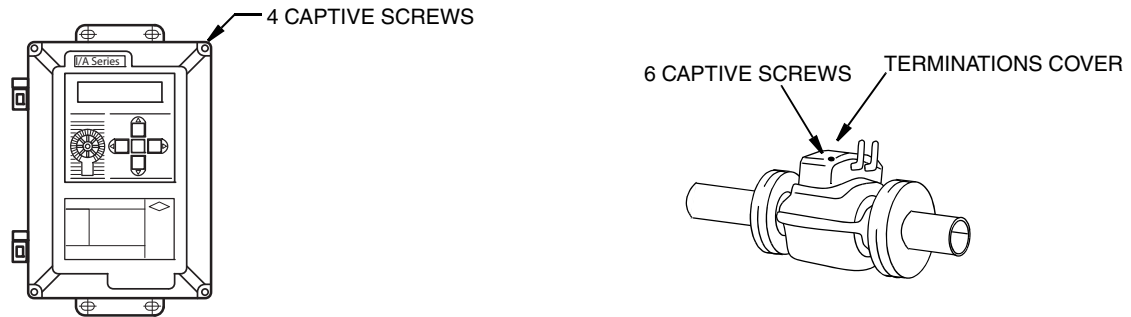

Figure 8. Access to Terminals
For access to terminals inside the transmitter, unscrew the four captive screws on the corners of the cover of the enclosure and swing open the door. For access to the terminals inside the flowtube, remove the six captive screws on the flowtube terminations cover. See Figure 8.
1. Remove the cover from the flowtube. See Figure 8.